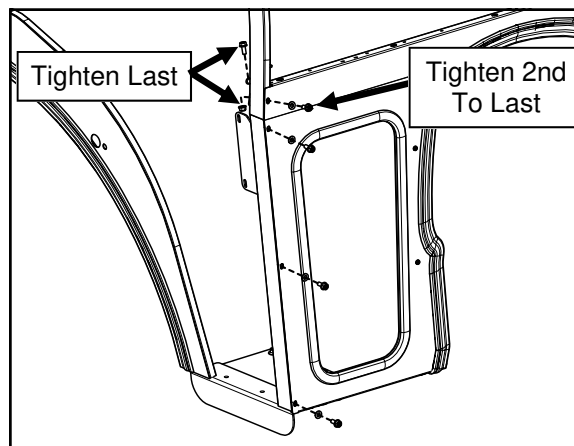

Fig. 7.2 (Right Sideframe Installation)
7.2 Fasten side frame to cowl with bolts and plastic washers. Starting from the top, install all fasteners finger tight. Next, tighten lower (3) screws first, then tighten front upper (1) screw, and finally tighten top (1) screw and nut. See Fig. 7.2.